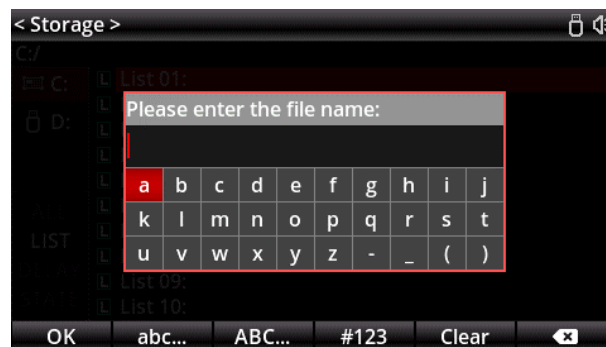

Figure 13-2 Filename Editing Page
- (1) Use the encoder rotary knob, the arrow keys  and Esc key (return to the previous level) to select or load the saved file.
- (2) Function keys:
- (3) Save: Press the Save key to save the data to the specified location. Filename setting as shown in Figure 13-2.